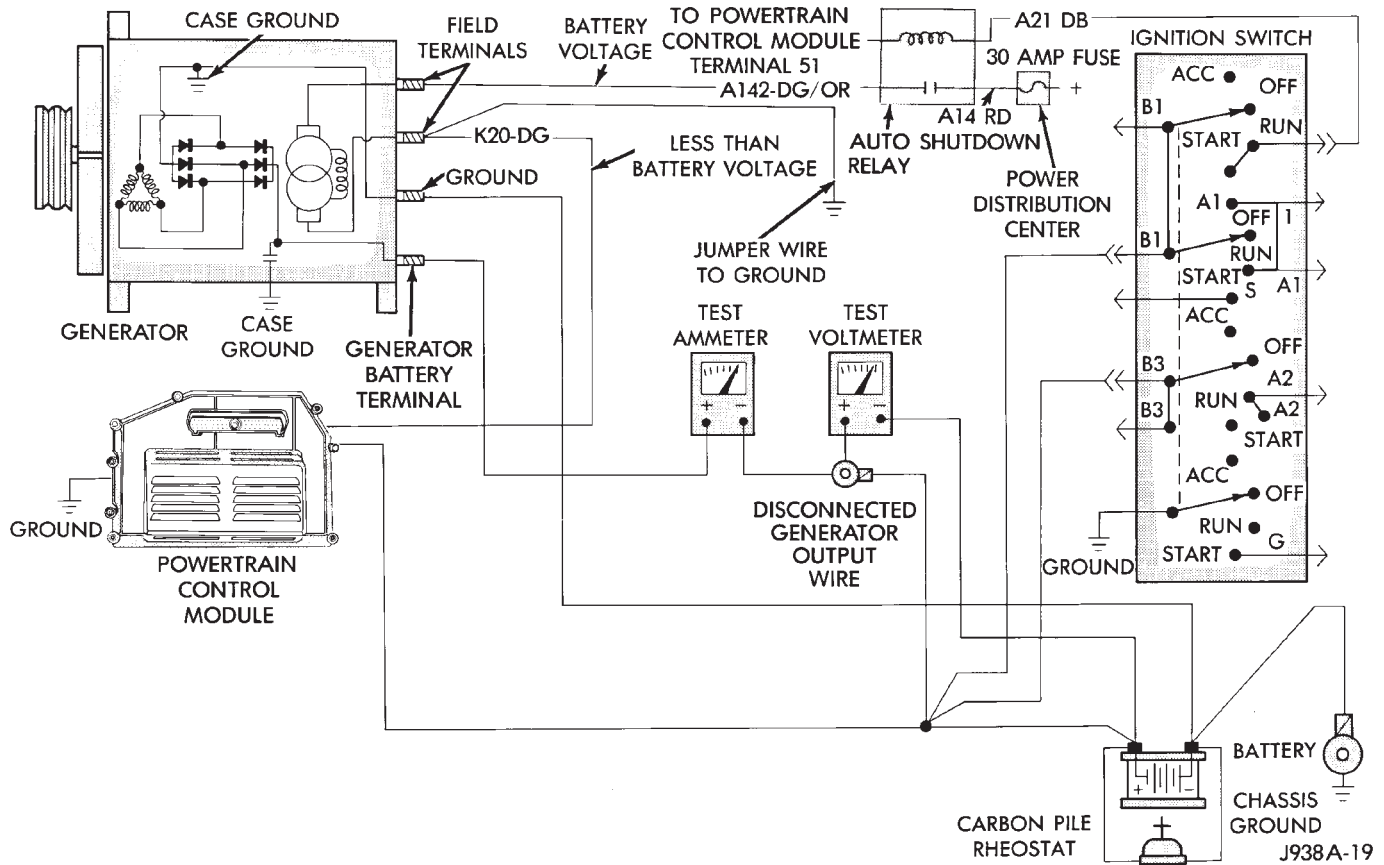

Fig. 2 Generator Output Wire Resistance Test (Typical)
(1) Before starting test make sure vehicle has a fully-charged battery. See Battery in this group for more information.
(2) Turn ignition switch to OFF.
(3) Disconnect negative cable from battery.
(4) Disconnect generator output wire from generator battery output terminal.
(5) Connect a 0-150 ampere scale DC ammeter (Fig. 2). Install in series between generator battery output terminal and disconnected generator output wire. Connect positive lead to generator battery output terminal and negative lead to disconnected generator output wire.
(6) Connect positive lead of a test voltmeter (range 0-18 volts minimum) to disconnected generator output wire. Connect negative lead of test voltmeter to battery positive cable at positive post.
(7) Connect one end of a jumper wire to ground and with other end probe green K20 field wire at back of generator (Fig. 2). This will generate a DTC.